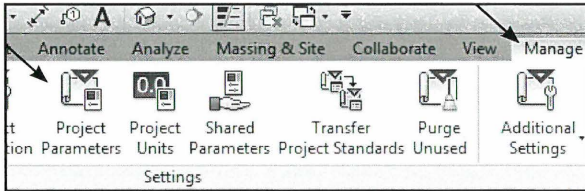

Fig. 13.01. Manage - Project Parameters.
- Klik *Manage - Project Parameter* (Fig. 13.01).